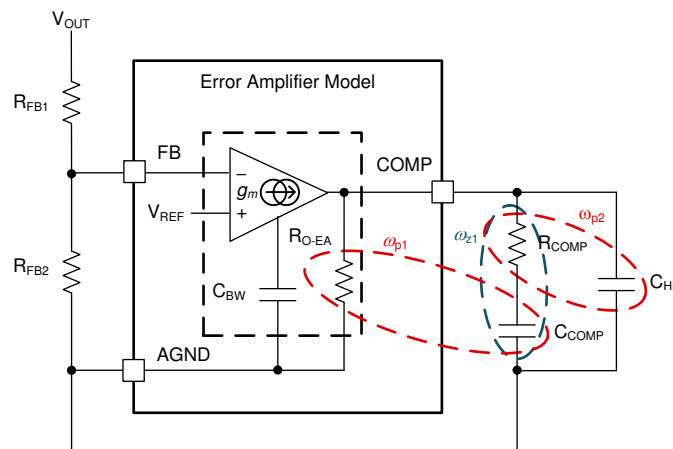

図 9-3. Error Amplifier and Compensation Network
図 9-3 shows a type-II compensator using a transconductance error amplifier (EA). The dominant pole of the EA open-loop gain is set by the EA output resistance, $R_{\text{O-EA}}$, and effective bandwidth-limiting capacitance, C_{BW} , as shown by 式 26.